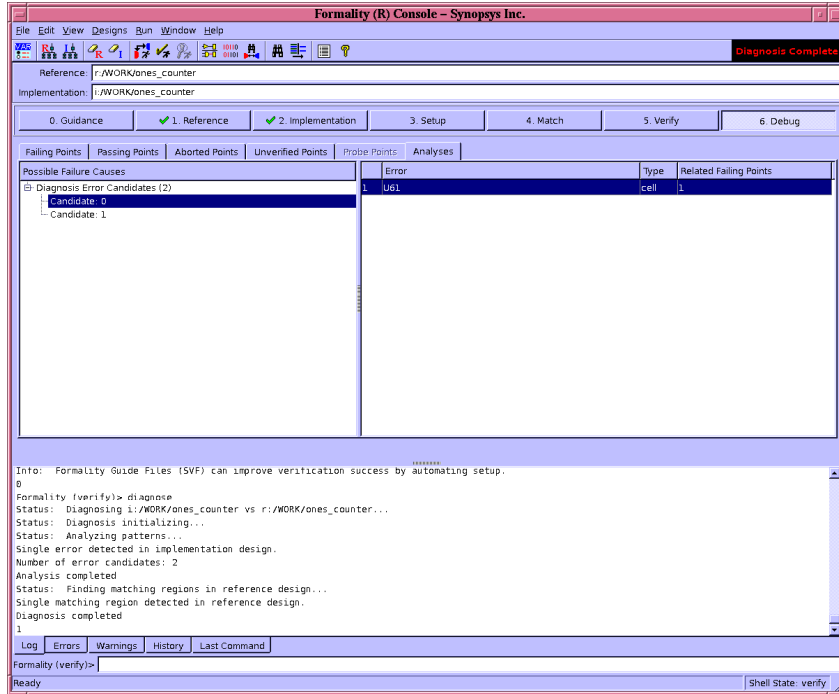
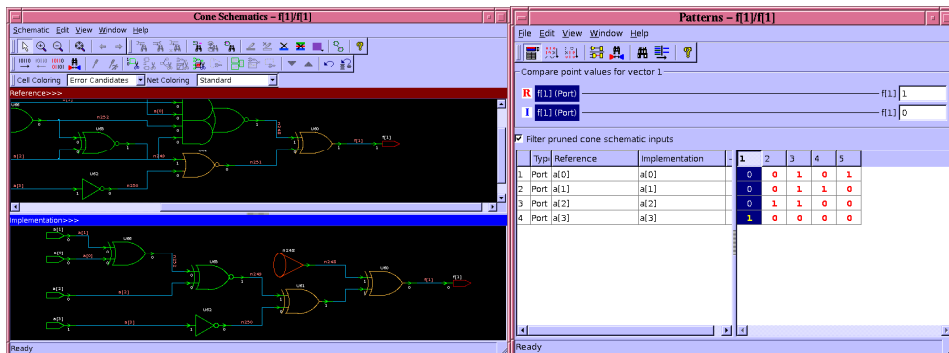

Fig. 17: Error candidates
Fig. 18: Logic cones and patterns
Now using the steps described in previous sections, load the reference (ones_syn.vhd) and implemented (ones_syn1.vhd) designs. Next run the verification as before. The verification will fail this time (Fig. 17). (1) Now select a failing point. Right click on the failing point and click "diagnose". You will notice that the "Analyses" tab is enabled. Click on the "Analyses" tab. (3) Select an error candidate. Right click on "Show Logic Cones". A schematic window (Fig. 18) containing logic cones starting from the compare points all the way back to the inputs will appear. You will see the reference design in the top window and the implemented design in the bottom window. (4) Click on the "Isolate Error Candidates" button in the tool